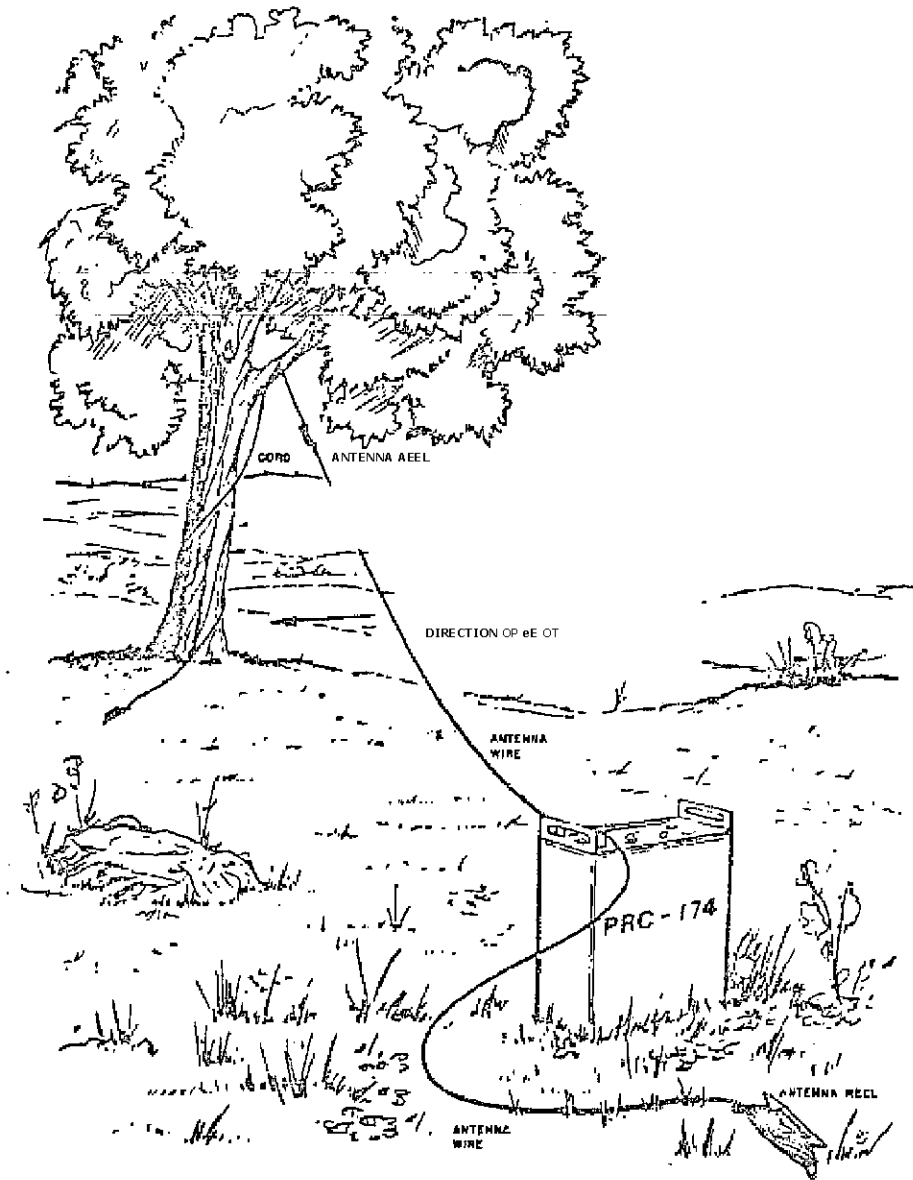

Figure 2-9. Slant-wire antenna
a. The most effective propagation direction of the dipole antenna, for both "transmit" and "receive" modes, is broadside to the wire, as indicated in Figure 2-9. If two suitable supports
a. The most effective propagation direction of the slant wire, for both transmit and receive modes, is broadside to the wire, as indicated in Figure 2-9.
- 2) Erect the antenna as shown in Figure 2-9: